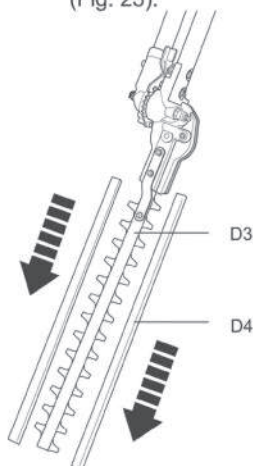

Fig. 23
- 1) Remove the blade covers (D4) from the blade (D3) before operation (Fig. 23).